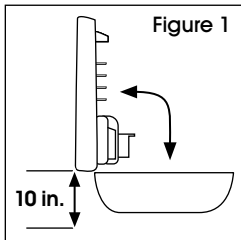

Figure 1
1. Install the dispenser at least 10" (25.4 cm) above counter top. (See Figure 1)